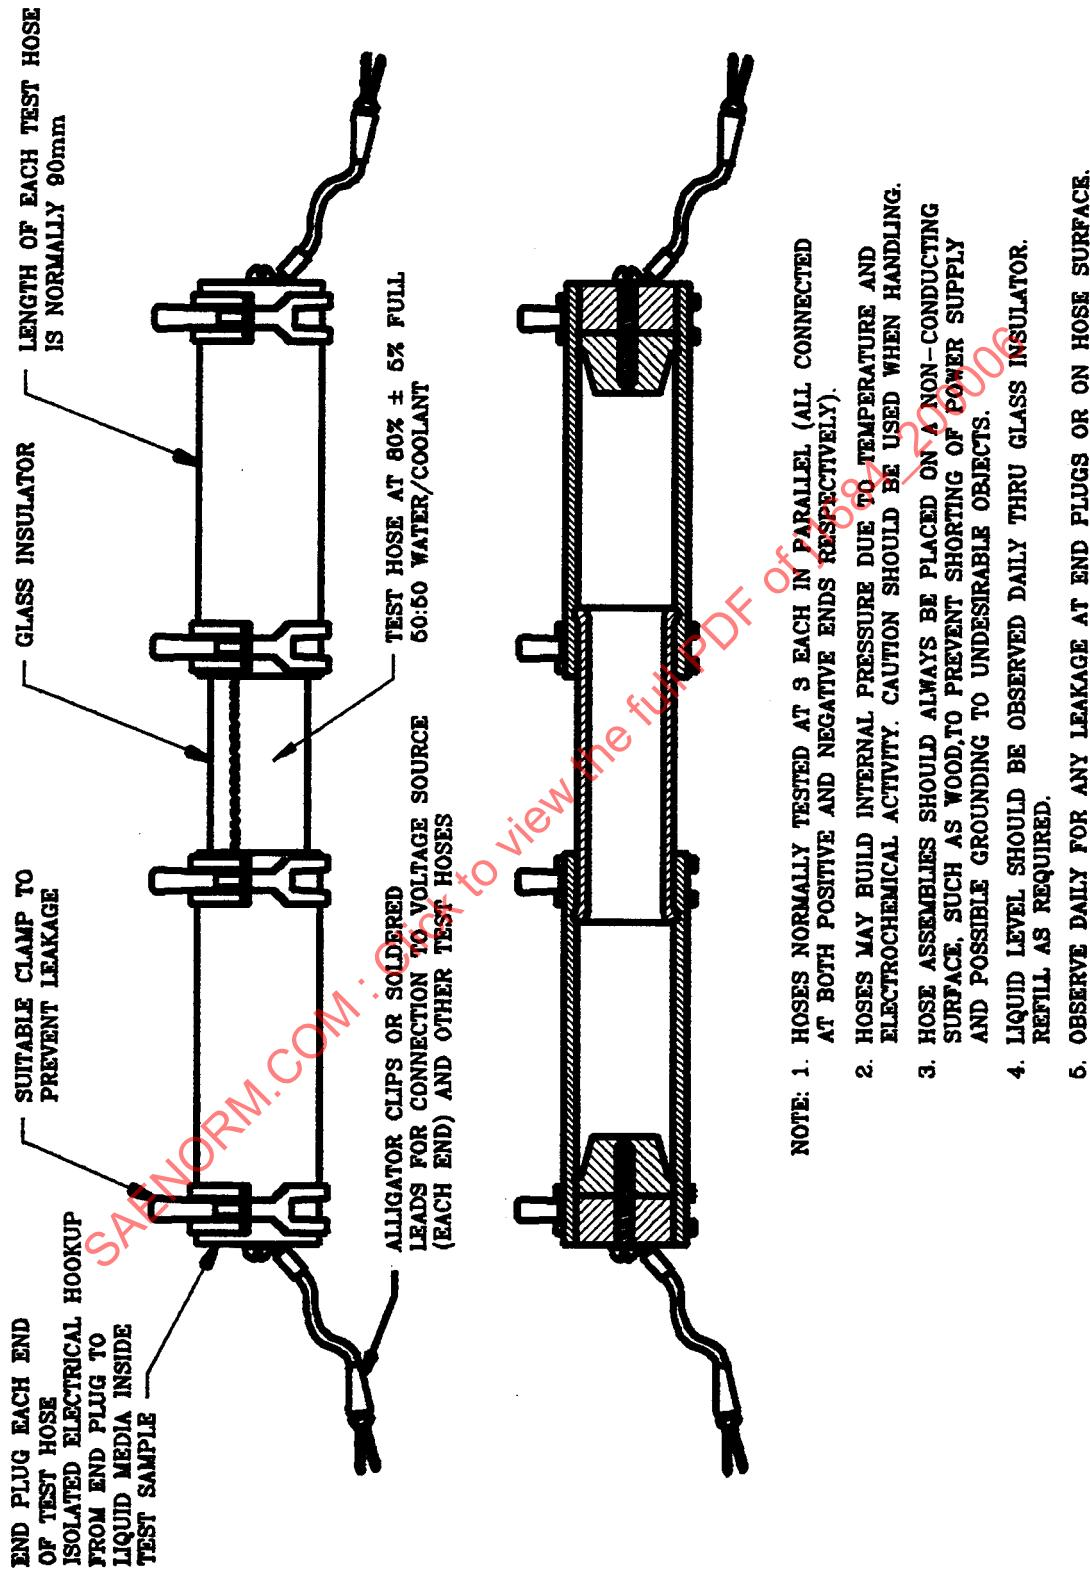

FIGURE 3—BRABOLYZER TEST CONFIGURATION
- 4.6** Make three of the previous completed assemblies per test. See Figure 3.